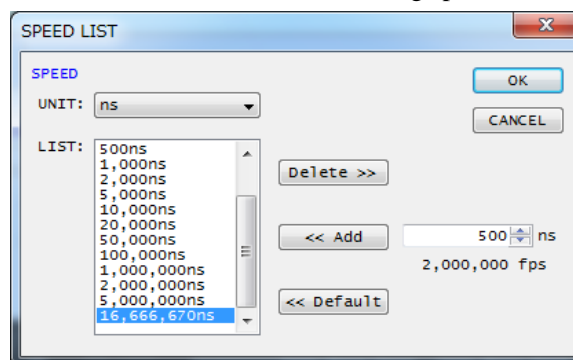

Fig. 5-11 Window for Editing the Recording Speed Selection List
In addition, clicking the  icon displays a window for editing the recording speed selection list (Fig. 5-11). This list of selectable recording speeds can be edited.
- 1.** Display the window for editing the recording speed selection list (Fig. 5-11).